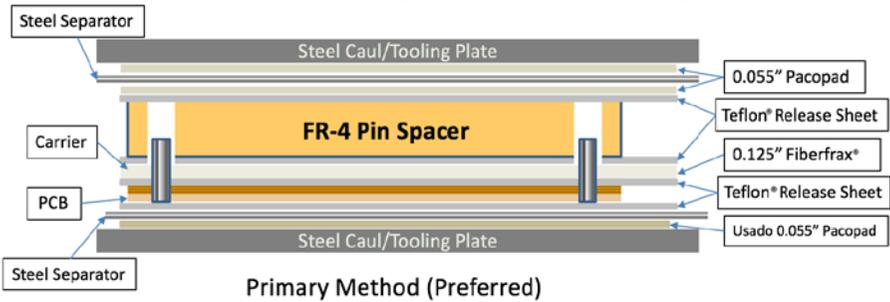

Figure 4-7 : Bonding method and pin usage.
- Bonding fixture design:** This is also custom-designed by the PCB fabricator to help ensure that there is good adhesion between the PCB and metal and good registration between the PCB and the metal. It is important to work with a fabricator that has a lot of experience with custom designing bonding fixtures. Figure 4-7 shows a typical setup of how a PCB is bonded to metal using a sheet film adhesive